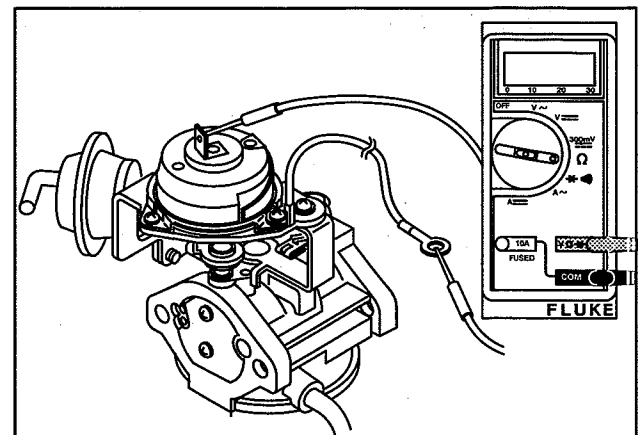

Fig. 53 – Checking Thermostat
1. Check resistance between tab terminal on thermostat and ground wire as shown, Fig. 53.